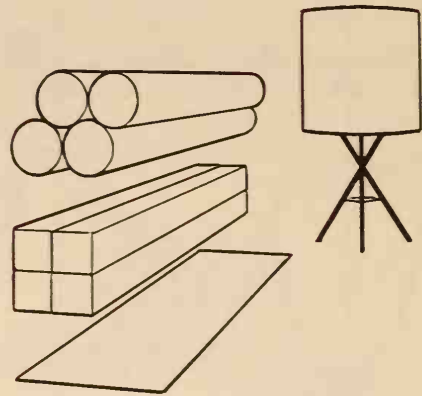

Fig. 2-3. Rods, bars, and sheets of metal are used to make up a larger shape or mass.
3. Mass or Solid. The solid shape or outline of an object has dimensions of thickness, width, and height. When you look at an object the mass may be square, round, or some other geometric form, Fig. 2-3. You will use rods, bars, cubes, and sheets of metal in developing your projects to make up a Mass or Solid shape.